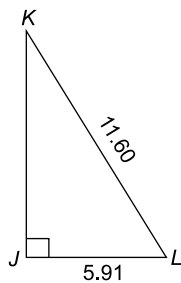

Figure RT1.1
2. In triangle JKL in Figure RT1.1, find: